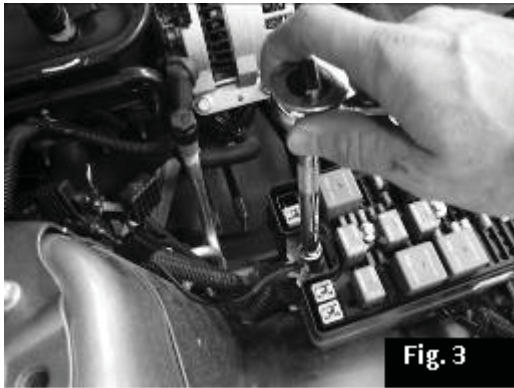

Fig. 3
6. Connect both the subwoofer and amplifier power harnesses to the lug and retighten the nut. Torque to 20Nm. Fig. 3